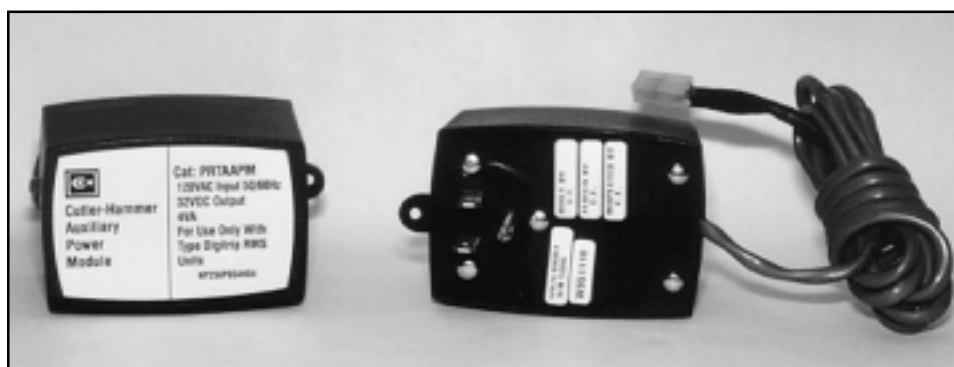

Figure 5.2 Auxiliary Power Module
e. Connect the Auxiliary Power Module to the Digitrip 1150V's connector in the upper right hand corner of the unit (See Figure 5.2).